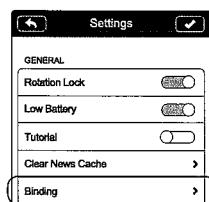
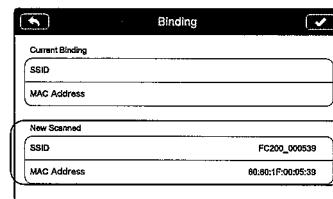
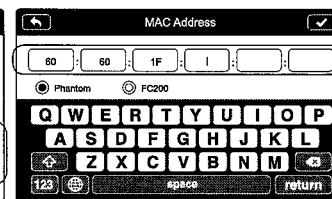

Figure 36
Figure 38
Figure 39
- (1) Power on the camera and Range Extender.
- (2) Approximately 30 seconds later, press the Binding Reset Button on the Range Extender with a pin until the SYSTEM Indicator turns off. The Range Extender will then restart automatically.
- (3) Approximately 30 seconds later, the SYSTEM Indicator will start to blink green, indicating that the Range Extender is ready for binding.
- (4) Enable Wi-Fi on your mobile device then select "Phantom_XXXXXX" the (SSID of your Range Extender) from the Wi-Fi network list.
- (5) Run the DJI VISION App then tap -> Settings -> General -> Binding (Figure 36). Select 'Scan QR Code' to scan the camera QR code on the bottom of aircraft (Figure 37). Get the camera SSID (E.g. FC200_xxxxxx) and the MAC address (Figure 38). You can also skip the scan and enter the camera MAC address directly (Figure 39). The MAC address can be found on the camera label.
- (6) Tap the tick in the top right corner. The Range Extender should automatically restart. Binding is now complete.